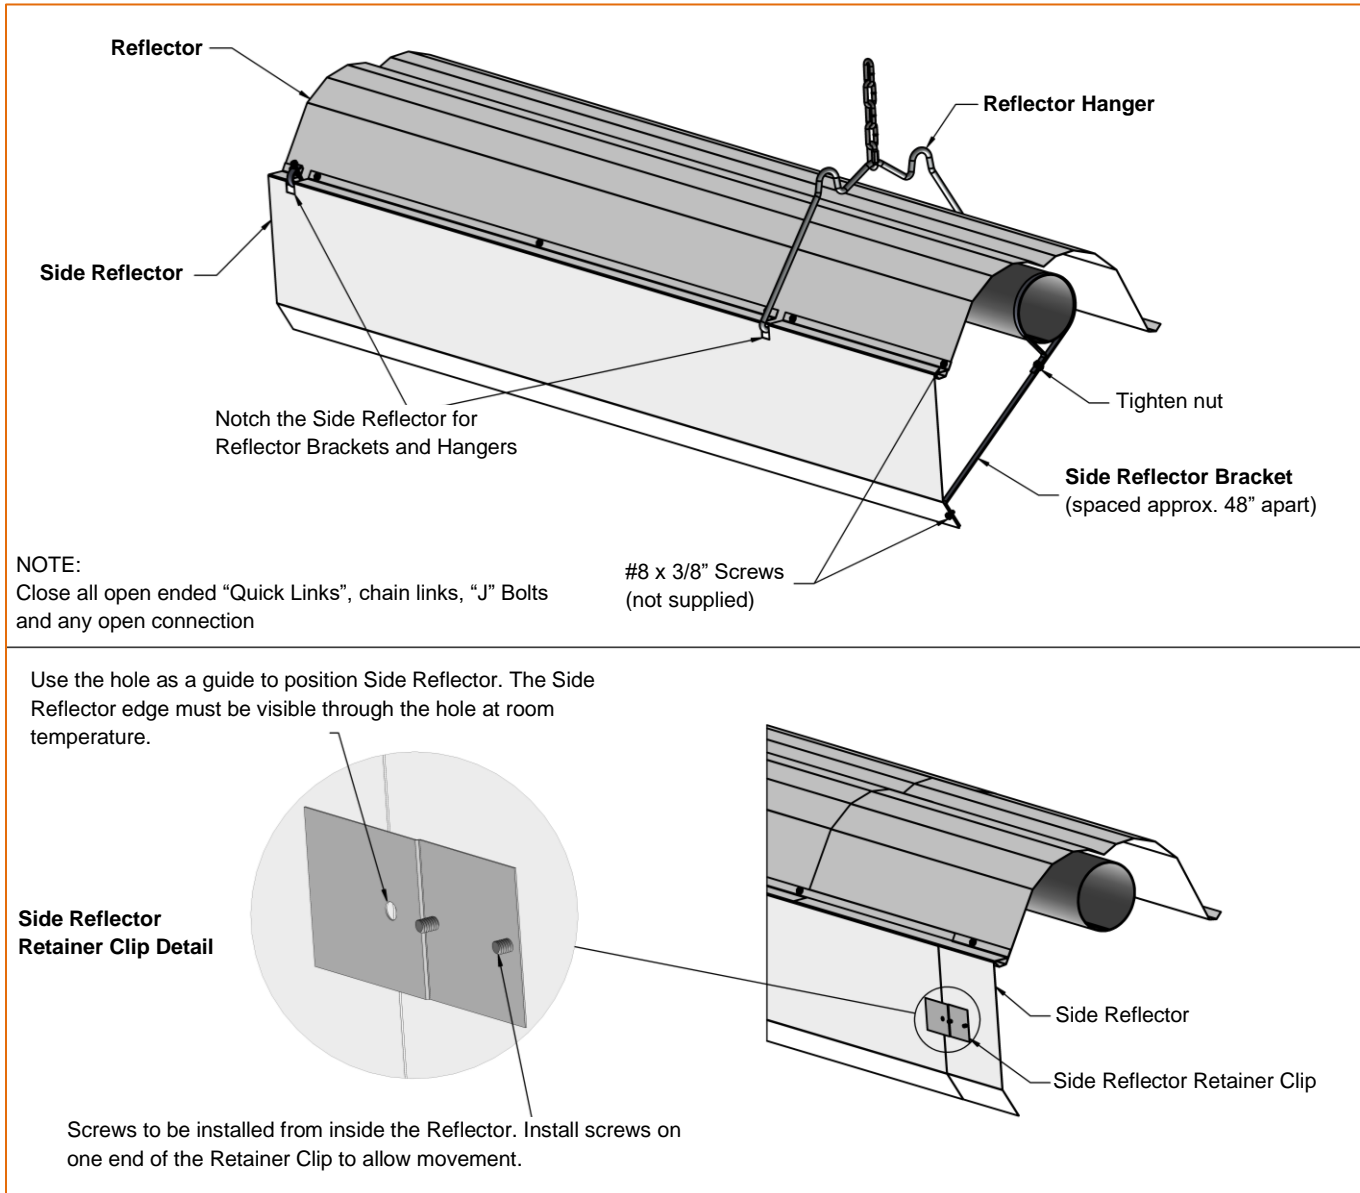

Figure 20: Side Shield Overlap
- If used, install side shields (reflectors) and/or bottom shield as required. Refer to Figure 20 and Figure 21 for details.
- Side shields are 124" (315cm) long. Fasten one side shield per reflector with #8 x 3/8" screws. Use three side shield brackets per side shield. Space about 48" (122cm) apart, refer to Figure 20.